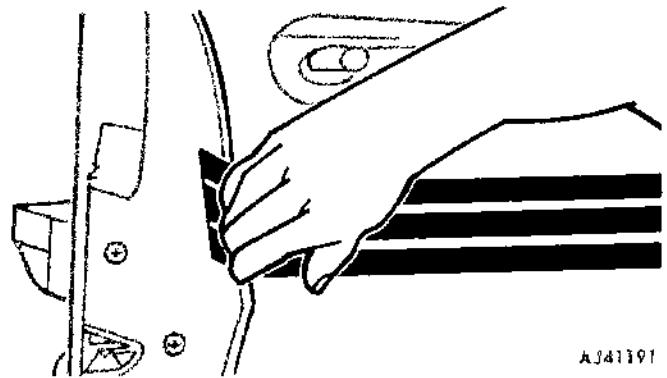

Fig. 20-6 Overlapping Decal at Corners or Edges
(7) Where possible, extend decal 1/2-inch beyond corners or edges (fig. 20-6) and wrap firmly using finger pressure and squeegee. Avoid trapping air in these areas.